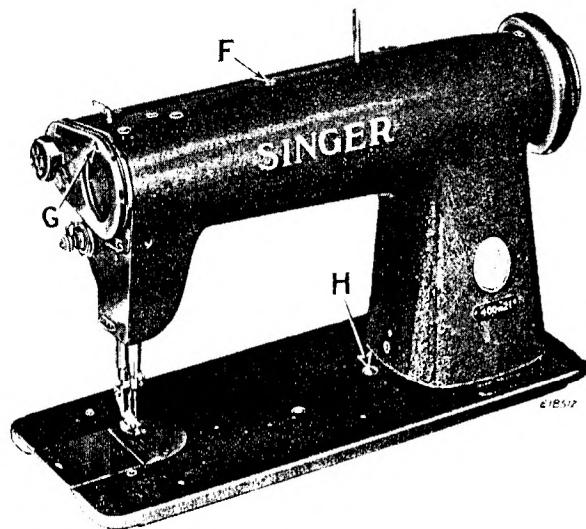

Fig. 21. Stitch Regulator and Indicator on Machine 400w21
The pressure of the presser foot on the material is regulated by the screw **F**, **Fig. 21**, in the top of the arm. Turn this screw to the right to increase the pressure or to the left to decrease the pressure. The pressure should be set only sufficiently strong to satisfactorily feed the work.
To change the length of stitch, press down the stud **H**, **Fig. 21** in the bed of the machine and at the same time turn the machine pulley slowly until the stud enters a notch in the adjustable feed eccentric cam. Still holding the stud, turn the machine pulley a part of a revolution until the number indicating approximately the number of stitches per inch desired appears in the hole **G** over the large take-up disc, then release the stud. **DO NOT TOUCH THE STUD (H) WHILE THE MACHINE IS RUNNING.**